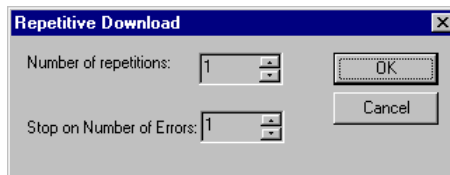

Figure 2-16. Repetitive Download Dialog
1. Choose **ispTools** ⇒ **Repetitive Download** to open the Repetitive Download dialog (Figure 2-16).